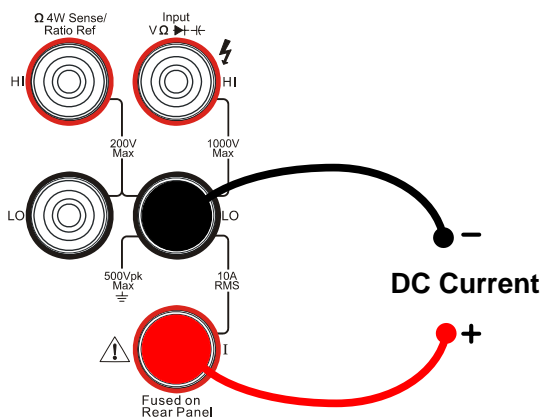

Figure 1-14
1. Connect test leads as Figure 1-14 shown. Red test lead connects the HI Terminal, Black test lead connects the LO terminal.